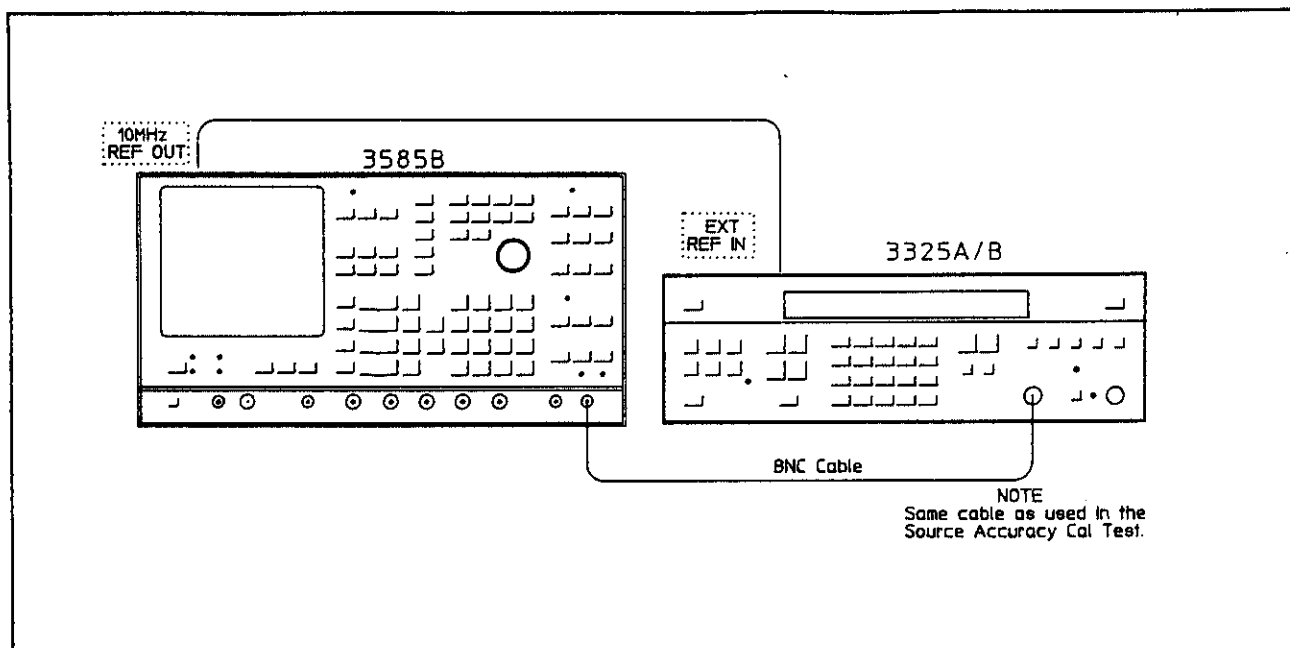

Figure 4-8a.
- Connect the 3325B output to the 3585B 50Ω input using the same cable used as in the source accuracy performance tests. See Figure 4-8a.